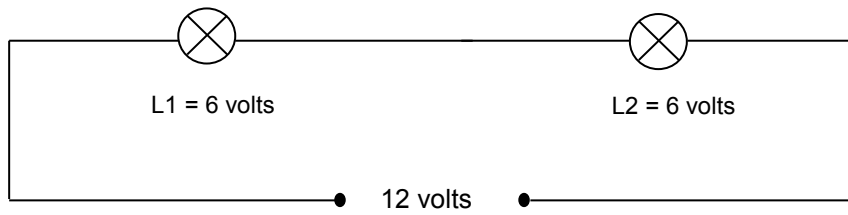

Fig .3
- 4 (a) Explain why the voltage across each of the identical lamps L1 and L2 in Fig.3 is 6 volts.